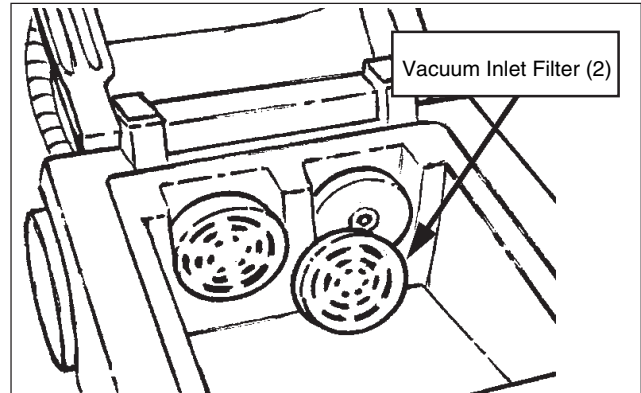

Figure 7
1. **Inspect and clean the two vacuum inlet filters.** Remove the cover for the machine. The filters are now accessible (figure 7). They are constructed of foam attached to plastic mounting rings. Slide the filters off and clean by shaking or vacuuming. Replace if there are any rips, tears or can't be cleaned.